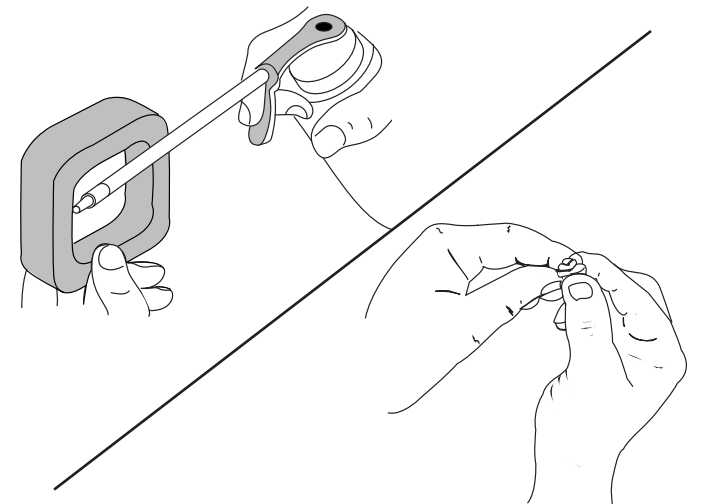

Fig. 26
4. Apply enough clean SAE 30 motor oil to lightly coat the filter (Fig. 26).
5. Squeeze the filter to spread and remove excess oil (Fig. 26).
6. Reinstall the filter (Fig. 26) and air filter cover.